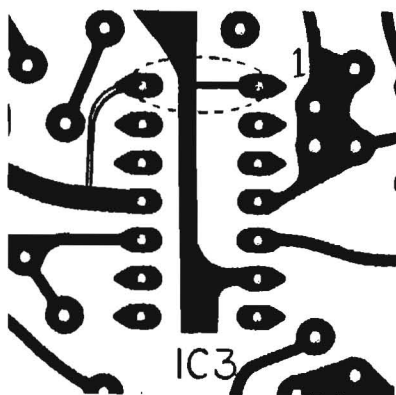

Fig. 4
6. Using Mylar sleeving over cap leads; solder .02uF cap to traces from IC3 pins 6 and 11. See Figure 4, below.